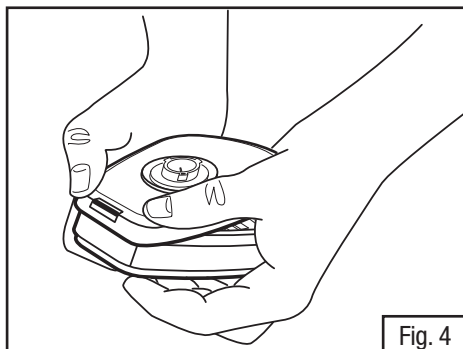

Fig. 4
1. Align adapter over cartridge. Engage front snap by squeezing front of cartridge and adapter together, placing thumbs of both hands over top of adapter and fingers along bottom sides of cartridge (Fig. 4).